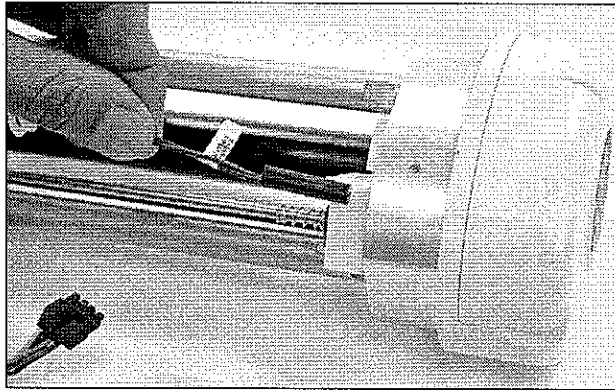

Figure 5-16b: Removing the Door Sensor
1. Install Door Sensor Assembly into back of Door Housing. Keep assembly flush with back surface of Door Housing. Secure by tightening the set screw with the 1/16" Allen wrench. Do not over-tighten (see Figure 5-16a and Figure 5-16b).